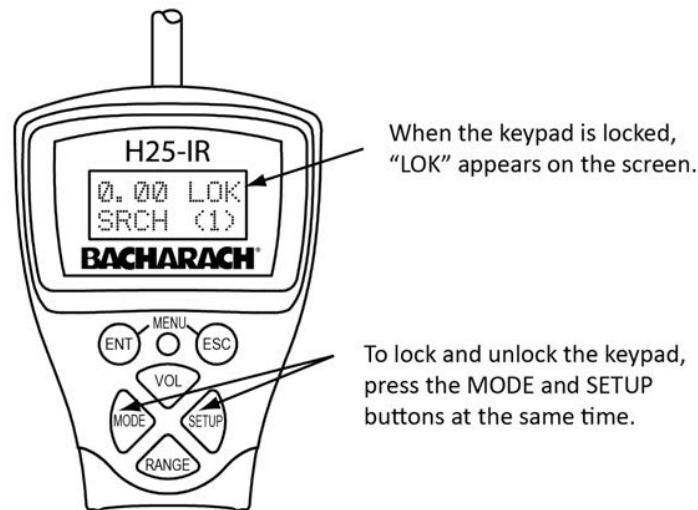

Figure 2-6. H25-IR PRO Smart Probe Key Lock Feature
Control Panel Push Buttons	<ul style="list-style-type: none"> <li>• Same functions as front panel buttons on instrument</li> <li>• MODE and SETUP buttons can be used to lock/unlock the keypad (see Figure 2-6)</li> </ul>
**NOTE:** The keypad on the smart probe can be locked to prevent accidental key presses (for example, when working in tight spaces). Press the MODE and SETUP buttons simultaneously to toggle this feature. Refer to Figure 2-6.